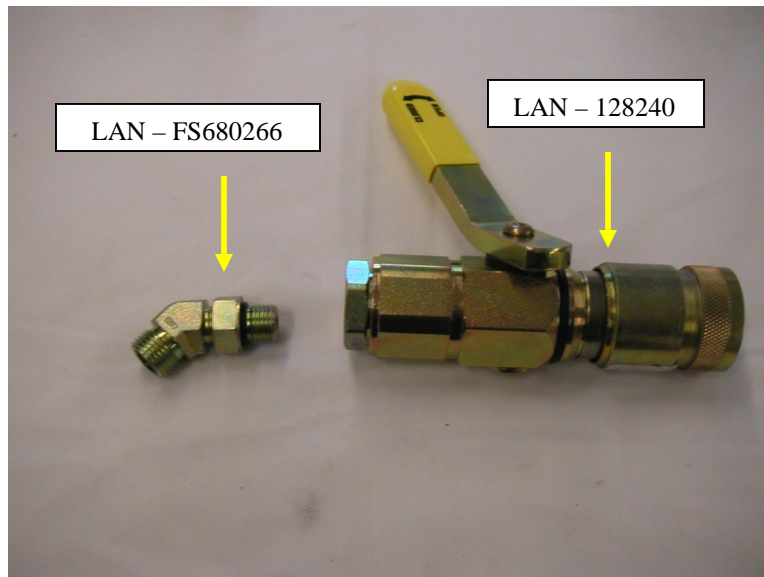

Figure 12
- 11. If you mounted the fore/aft bracket, insert Hydraulic Fitting (**LAN – FS680266) into Quick Coupler (LAN – 128240). (See Figure 12) Do not completely tighten fitting at this time as adjustments may be needed.